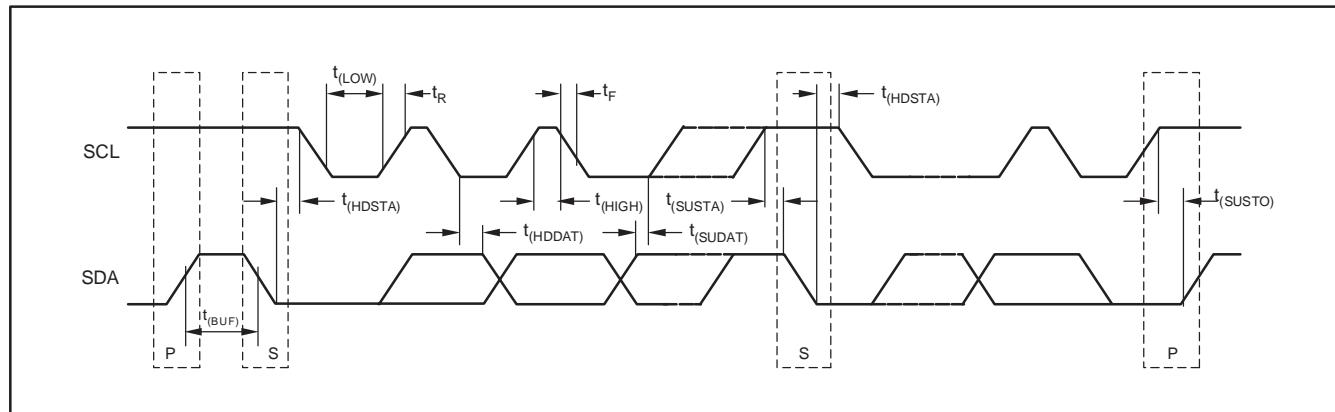

Figure 13. Two-Wire Timing Diagram
The TMP411 is Two-Wire and SMBus-compatible. Figure 13 to Figure 16 describe the various operations on the TMP411. Bus definitions are given below. Parameters for Figure 13 are defined in Table 12.
**Table 12. Timing Diagram Definitions for Figure 13**